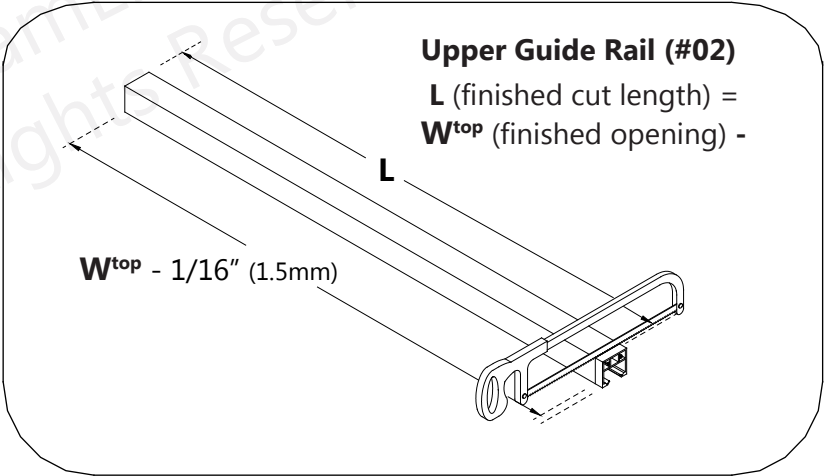

Fig 2a
2. Use a miter saw or hacksaw to cut the **Upper Guide Rail (#02)** 1/16" shorter than the top dimension W^{top} from step #1. ($W^{top} - 1/16" = \text{finished cut length } L$) (**Fig 2a**)
The Bottom Guide Rail (#15) needs to be cut equally from both ends to keep the center guide holes centered. (The **Bottom Guide Rail (#15)** has been precut for the model size. **See Table A**). Using a miter saw or hack saw, cut the **Bottom Guide Rail (#15)** 3/4" shorter than the bottom dimension W^{bot} from step #1. ($W^{bot} - 3/4" = \text{finished cut length } L$) (**Fig 2a and 2b**)